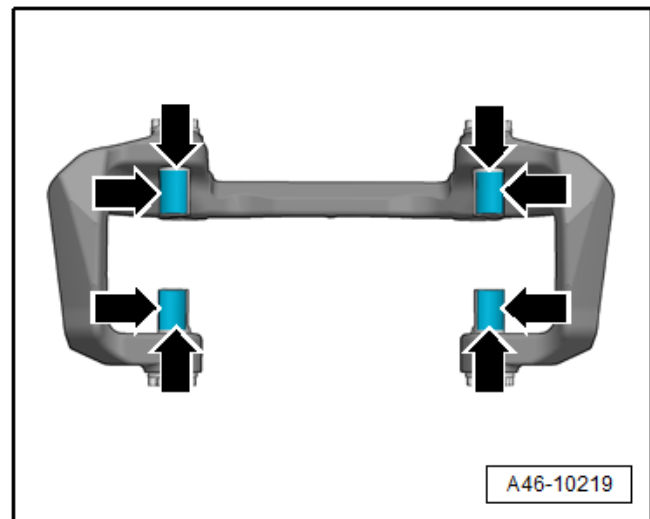

Figure 3. Caliper carrier guide pins with anti-seize (G 052560A2) lubricant applied where the pads make contact.
2. Apply a thin coat of anti-seize (G 052560A2) lubricant to the guide pins of the front caliper carriers (Figure 3).